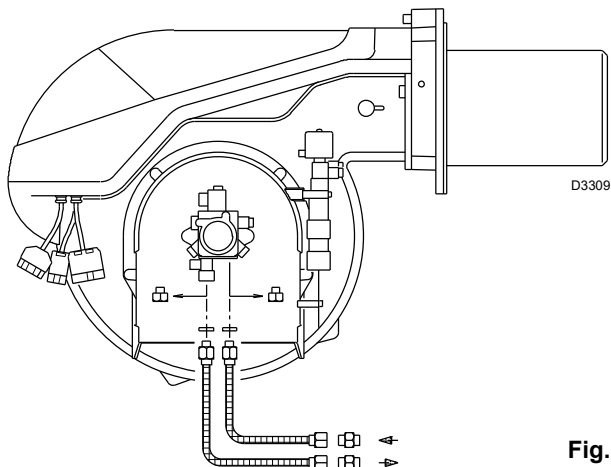

Fig. 17
6.2 Hydraulic connections (Fig. 17)